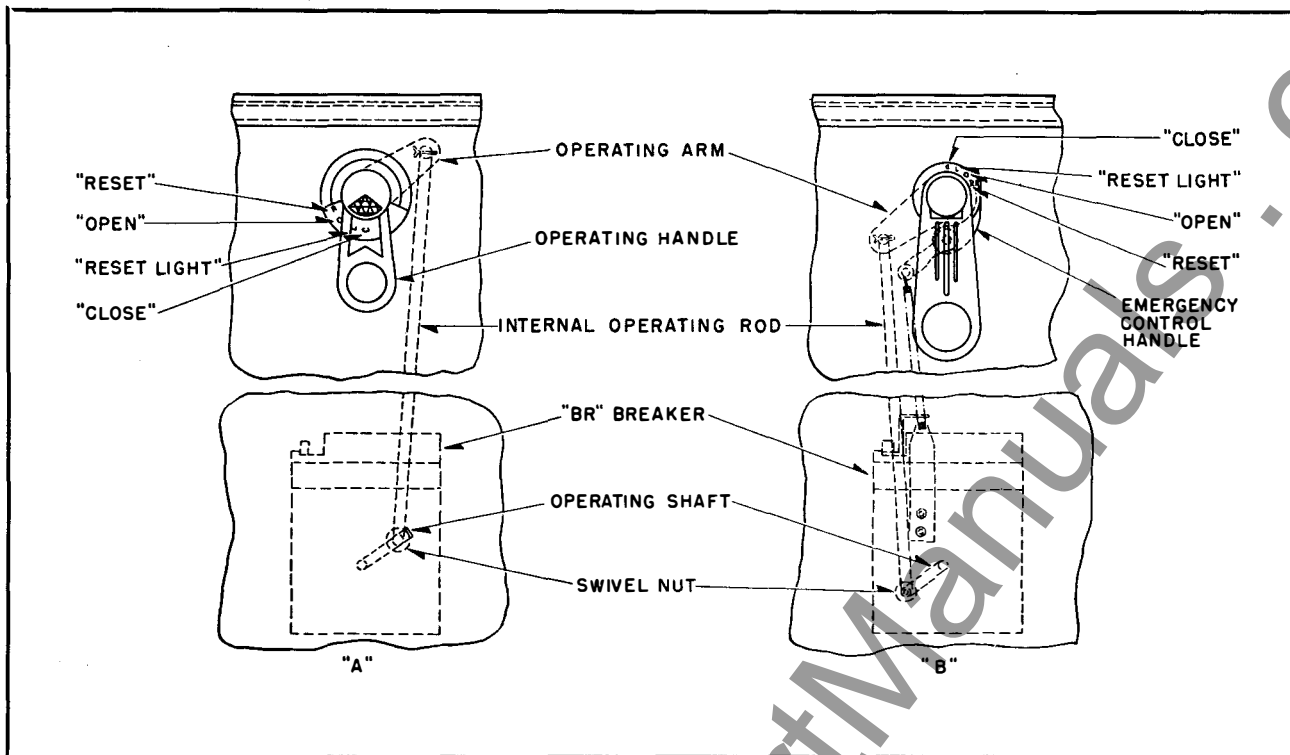

FIG. 11. "BR" Breaker, Operating Handle, Linkage and Signal Light.
**"BR" Breakers.** (See Fig. 11). In transformers built before February, 1948, the shaft protruding from the side of the breaker pointed toward the low-voltage bushings and upward when the breaker was closed, as shown in Fig. 11A. Since then, the shaft points toward the high-voltage bushings and downward, when the breaker is closed, as in Fig. 11B. To adjust the rod, proceed as follows: